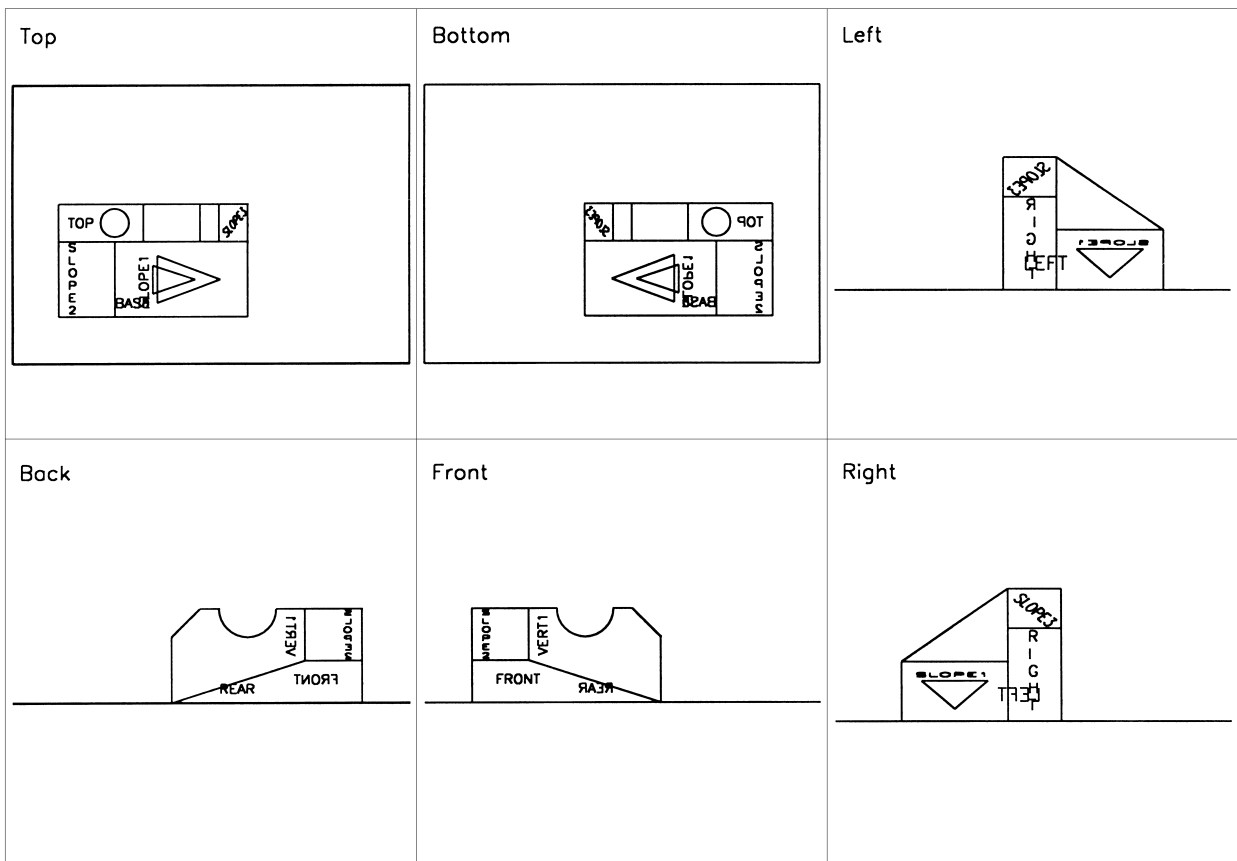

**Figure 10.5** 3D Views – the ISOMETRIC Presnts with the TEST3D model.
- 4 When the viewpoints have been entered, zoom-all in each viewport and the result should be Fig. 10.5. This does not need to be saved